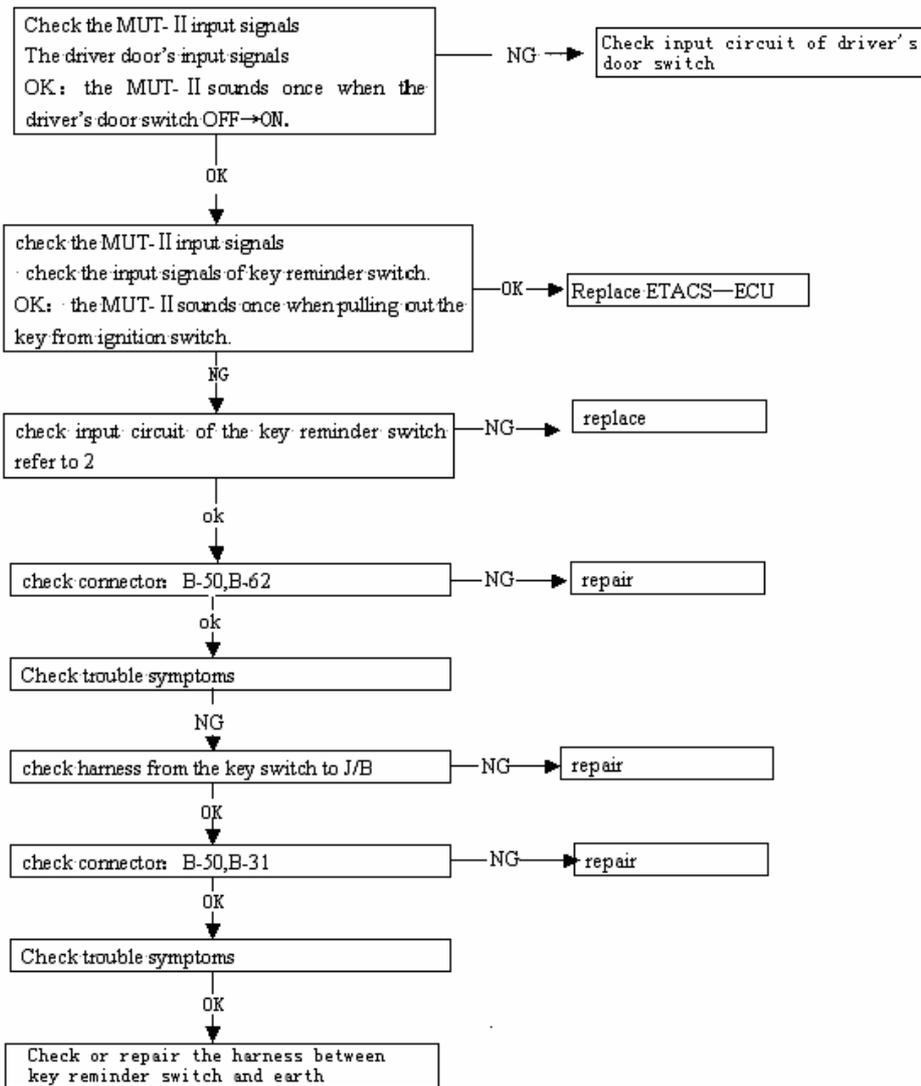

Fig 20—30
5) Trouble symptoms inspection step 3 as table 20—8、 fig 20—31